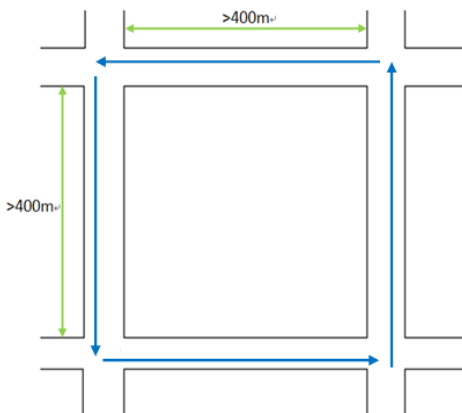

Figure 5-10: Running Counter-Clockwise
3. Since the calibration is not finished, run a counterclockwise circle for one lap around this rectangle block with same speed and distance as in Step 2. See Figure 5-10: